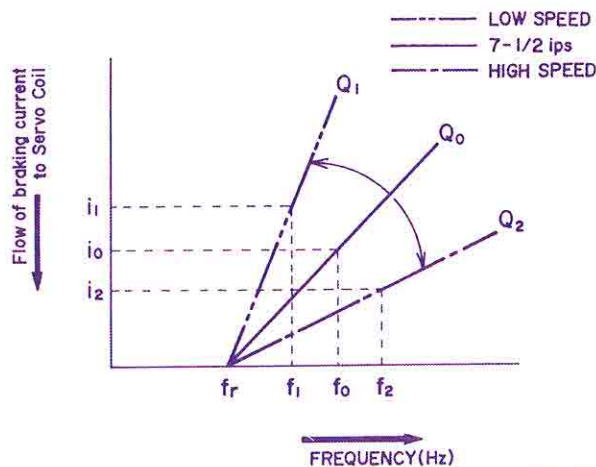

Fig. 33
6. In case of the capstan motor revolutions having reached the speed of n_2 , the detector signal produced at the detector coil surpasses f_0 and advances toward the higher f_2 frequency. (See Figs. 33 & 34). Accordingly, the flow of current to the servo coil increases, and because the electro-magnetic braking supplied to the capstan motor is increased, the capstan motor revolutions become slower, and normal revolutions are regained.
7. In case of the capstan motor revolutions having slowed to n_1 , the detector signal produced at the detector coil drops to lower than f_0 and descends toward the low f_1 frequency (See Figs. 33 & 34). Accordingly, the flow of current to the servo coil decreases, and because the electro-magnetic braking supplied to the capstan motor is decreased, the capstan motor revolutions become higher, and normal revolutions are regained.
As shown in Fig. 33, resonance frequency f_r (between the arrow mark) is changed by adjusting the dust core of discriminator coil L1 (VI2031SCO1). Accordingly, f_0 is also changed between f_1 and f_2 , and the flow of braking current (i_0) to the servo coil is also changed between i_1 and i_2 . Consequently, correct tape speed can be attained by using a tape speed measuring tape and a Frequency Counter and adjusting the dust core of coil L1.